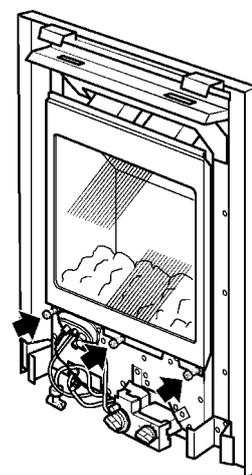

Fig. 5 Window Removal
- Unscrew and remove the three spring loaded window fixing screws and washers from the base of the window frame. See figure 5. Keep the screws and washers in a safe place.